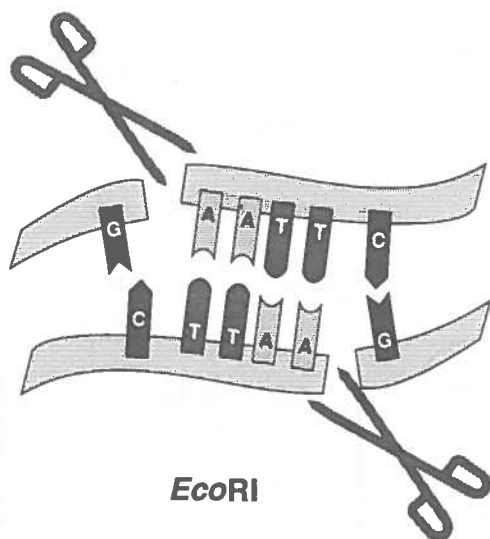

Fig. 1 Action of the restriction enzyme EcoRI
EcoRI cuts λ and other DNAs only between guanine (G) and adenosine (A) where they occur as part of the sequence GAATTC (and obviously in the mirrored sequence CTTAAG see figure 1). Parallel attack of the bacterial DNA is prevented by protective methyl groups on the equivalent bases at the restriction sites¹.